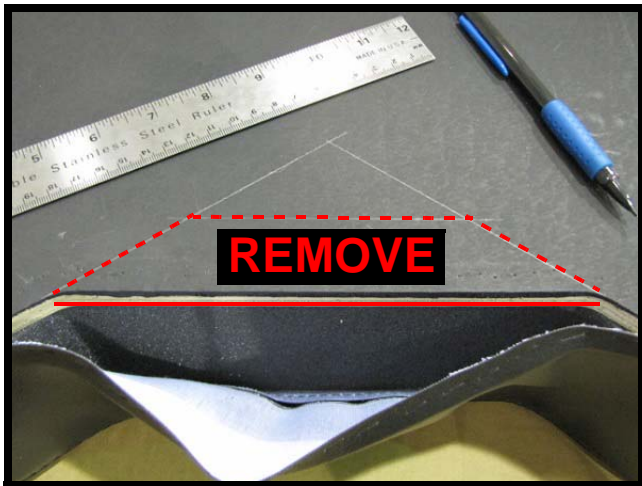

FIGURE 8
10. Draw a connecting line from the two (2) marks made in Step 9.
11. The 1/2" plywood within the red highlighted area marked "REMOVE" will need to be cut out. See figure 8.
12. Use a saber saw and cut along the dotted lines shown in Figure 8 & 9. Use the appropriate blade and cut at a slow speed. See Figure 9.